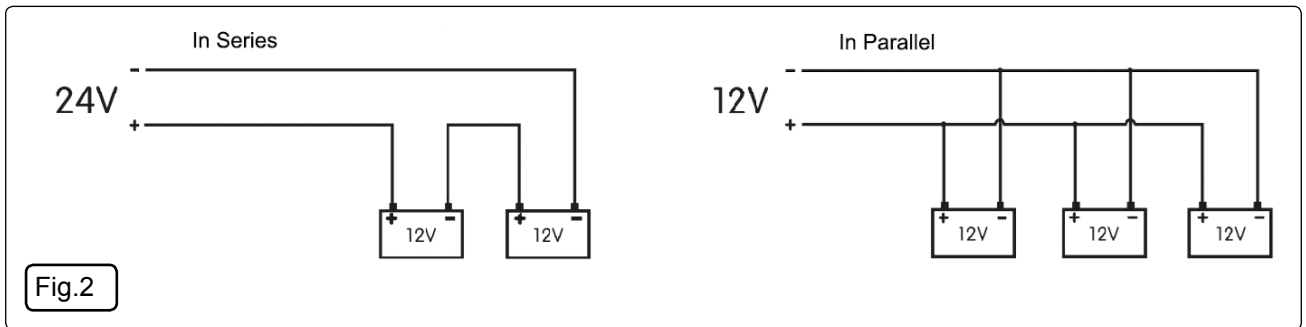

Fig.2
- 4.3.2. Set the charger voltage 12V or 24V according to the nominal voltage of the battery being charged, by moving the red cable to the appropriate terminal. * Note: To charge several batteries at the same time see the series/parallel diagram in fig. 2.